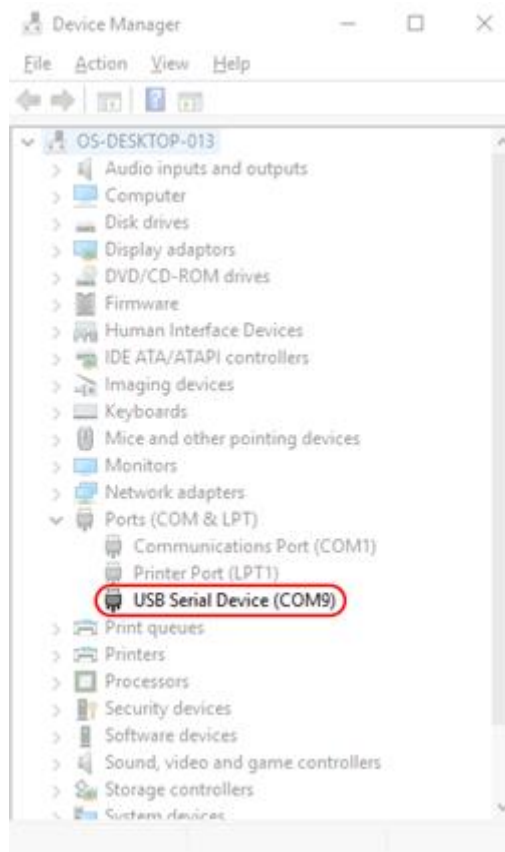

Figure 7.1. Ossila Source Measure unit in the Device Manager.
- I. The unit will appear in the Device Manager under the Ports (COM & LPT) section as 'USB Serial Device (COMX)' as shown in **Figure 7.1**.